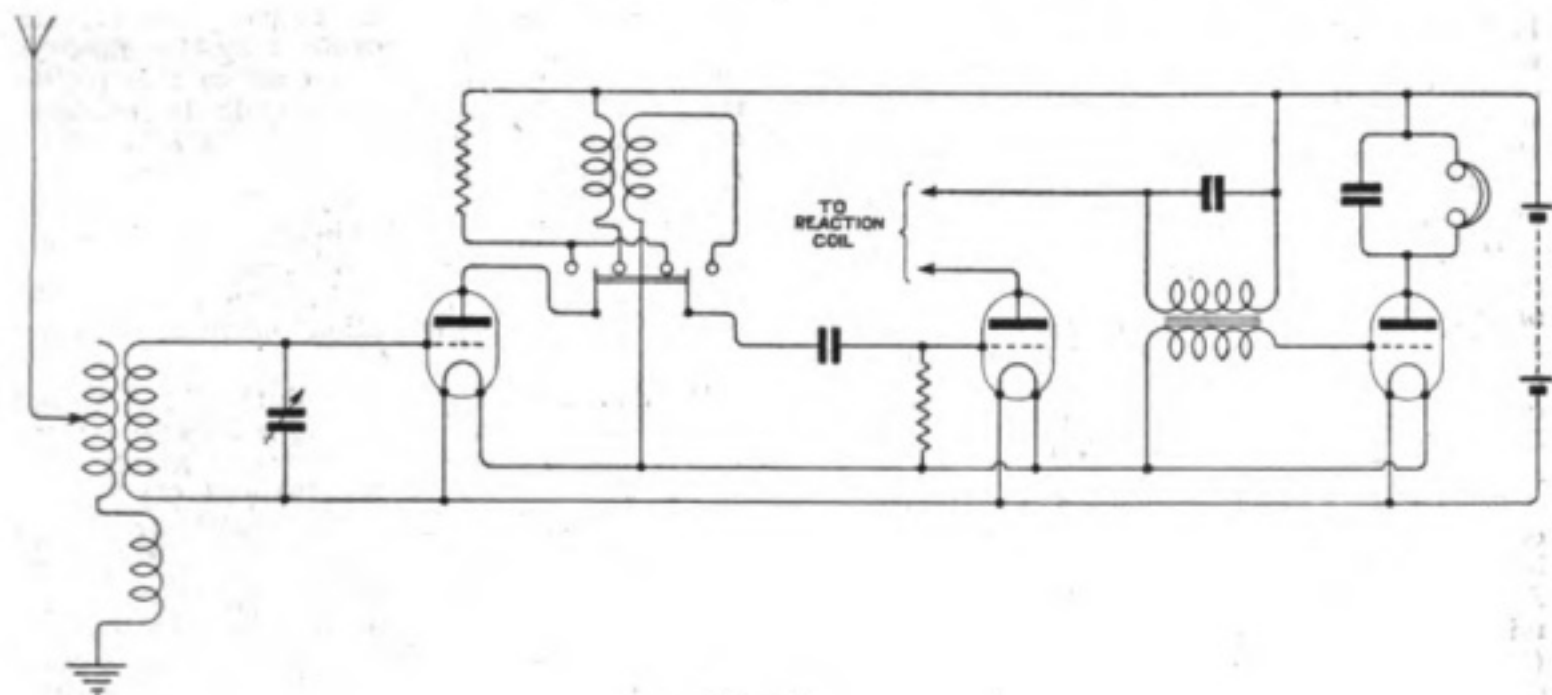

Fig. 3.
(1) In spite of the way in which the diagram is arranged this circuit is of quite ordinary type. The additions required will make the circuit essentially that of Fig. 3, page 340, June 10th issue, H.R. telephones being retained if required.
and asks (1) How he can estimate the capacity of the aerial to get 0.00035 mfd. (2) What should be the capacity of the A.T.C. (3) For a diagram to supplement the Figs. 3 and 9 of this article showing connections.
See diagram. (Fig. 3).